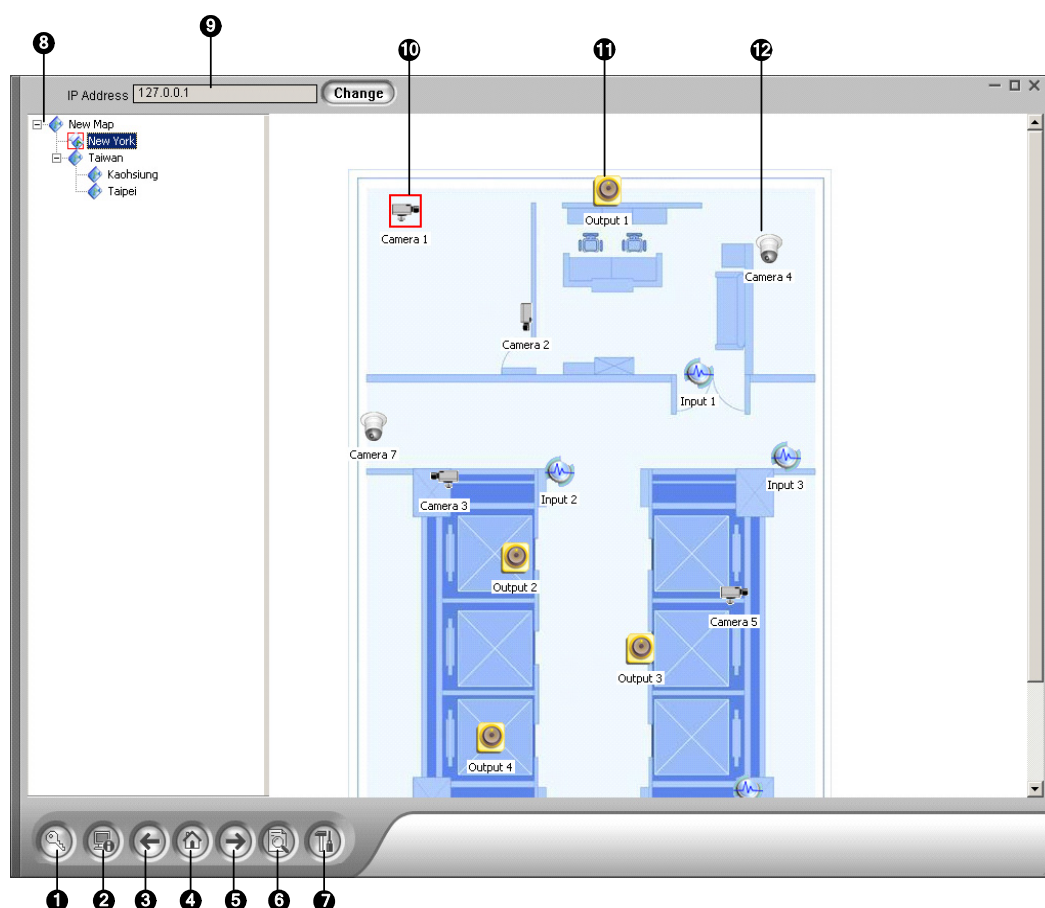

Figure 9-6 The Remote E-Map Window
When the client PC connects to the WebCam server, all the E-Maps saved in the local server will be downloaded to the client PC, with the E-Map files of 500 hosts at most. The E-Maps created for remote hosts can only function through WebCam after you log in these hosts. You can login 500 hosts at a time. Click the **Login** button (No. 1, Figure 9-6) to display the following Login window.
Click the **Configure** button (No. 7, Figure 9-6) to display the following dialog box:
The Host Information window lists the triggered events of cameras and I/O devices. Click the **Host Information** button (No. 2, Figure 9-6) to open it.
On the Remote E-Map window, the **ViewLog** button (No.6, Figure 9-6) is designed for the Remote ViewLog function, giving you remote access to the recorded files of DVR and playing back video by the player ViewLog. For details on starting the Remote ViewLog service, refer to *Remote ViewLog* in Chapter 8.
4. Click the **Login** button (No.1, Figure 9-6) to select the desired host(s) to access videos and I/O devices.